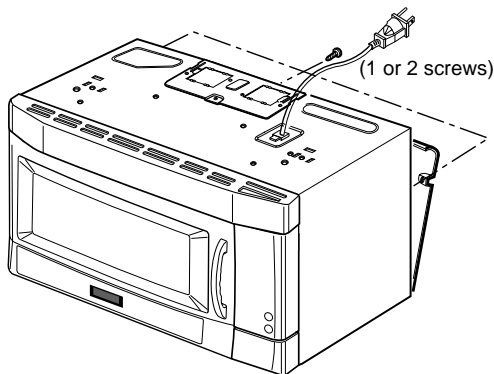

Figure 16
- (1) Remove the mounting plate by loosening mounting plate screws (1 or 2 screws) securing it to the back plate. (See Figure 16)